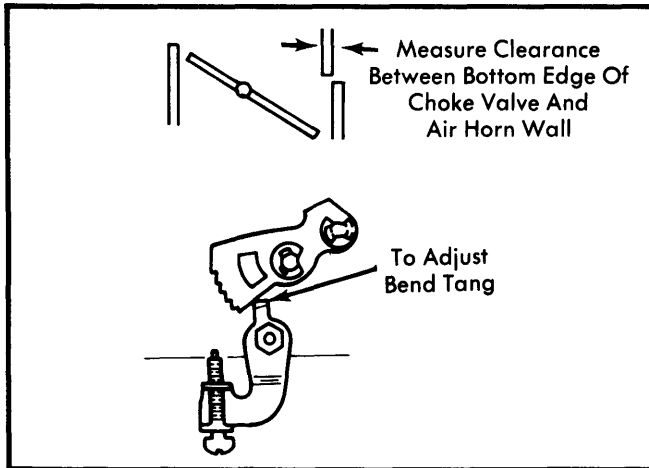

Fig. 6 Adjusting Choke Unloader
1) Hold throttle wide open. Measure specified choke unloader clearance between lower edge of choke valve and air horn wall. See Fig. 6.